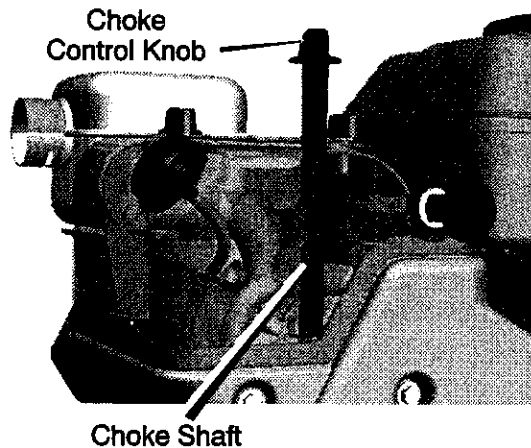
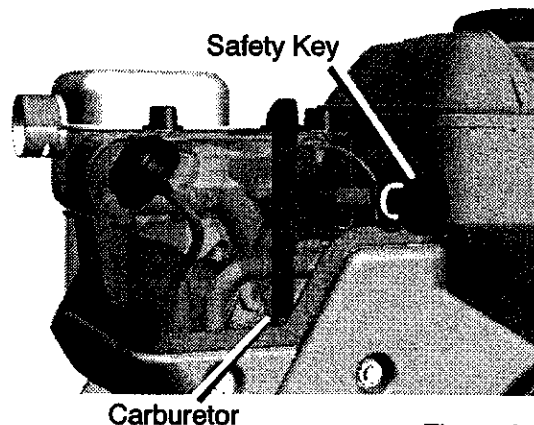

Figure 23
Figure 24
8. Connect the choke control knob with the choke shaft on the carburetor (see Figure 23 and Figure 24). Make sure the choke control knob is properly installed. If the choke control knob is not installed correctly, the choke will not operate.